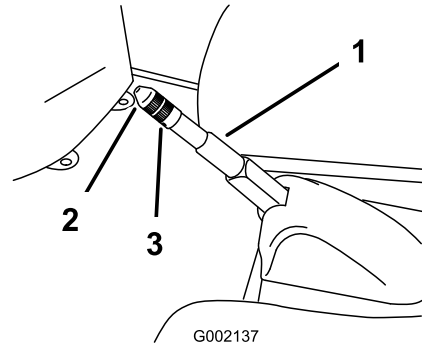

Figure 39
2. Loosen the set screw securing the knob to the parking brake lever (Figure 39).